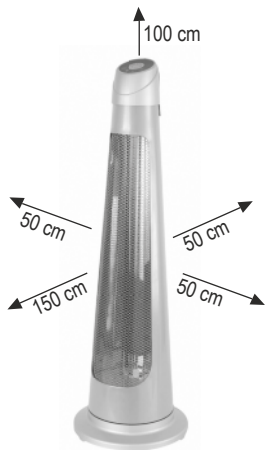

Figure 2 • 2.ábra • 2. obrázok • fig. 2. • 2. skica • 2. obrázek • Slika 2.
6. Never locate the unit directly in corners and observe the minimum mounting distances indicated in Figure 2. Always observe the health and safety regulations valid in the country of use.